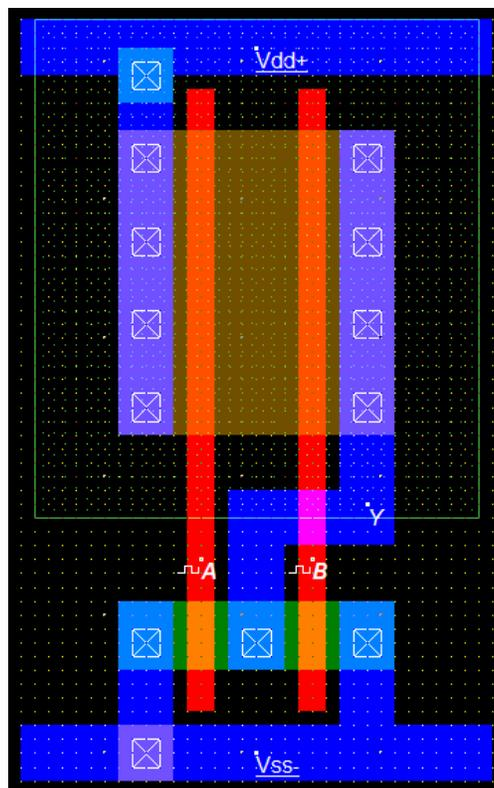

Figure 12
Then place appropriate input (clock) signals on polysilicon fingers, and VDD and GND on rails. Lastly, place a “Visible node” on output (Y) terminal. The final layout of CMOS NOR2 is depicted in Fig. 12.